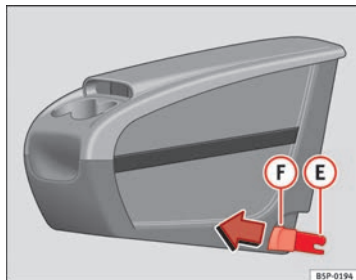
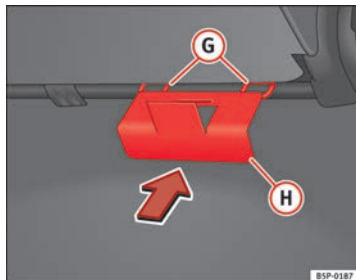

Fig. 113 Mobile storage compartment. Installation
Fig. 114 Mobile storage compartment mounting plate
- Fit the mobile storage compartment mounting plate (H) ⇒ fig. 114 from the inside of the vehicle, through the rear part of the seat. It should be fitted between the backrest and the seat, in the central seat area.
- Set both mounting pieces together (E) ⇒ fig. 113, with both mounting rings (G) ⇒ fig. 114 and press hard until both the clips completely connect with the rings.
- Pull each of the buttons ⇒ fig. 113 (F) on the clips (red buttons) forwards, until they snap out of place.